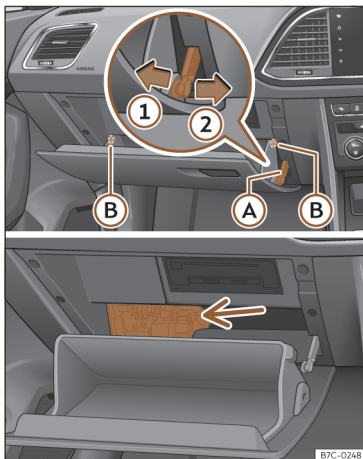

Fig. 188 Right-hand drive vehicles: fuse box cover under the passenger side dash panel.
- Undo the opening limiter >>> **Fig. 188 (A)** in two steps: first, unlock the limiter by pulling back on it (arrow ①) and then move it gently to the right (arrow ②). Remove the guide when the cover is in the normal opening position (30°).
- Free the side pivots (B) to release the cover to its second opening position (60°).